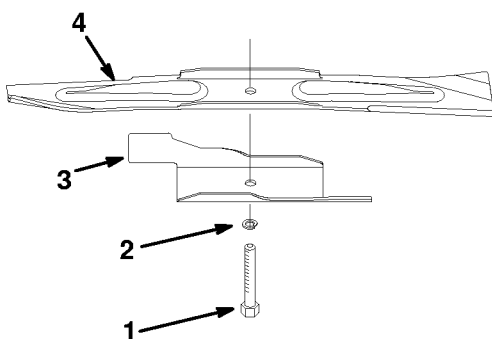

Figure 23
5. **REMOVING BLADE**—Grasp end of blade using a rag or thickly padded glove. Remove blade bolt, lockwasher, blade accelerator and blade (Fig. 23).